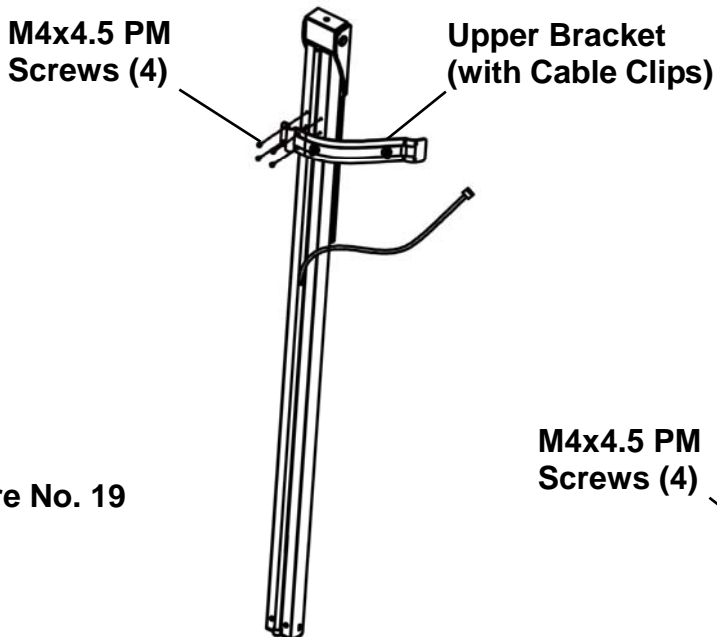

Figure No. 19
1. Referring to Figure No. 19, align the upper bracket with the holes in the height rod (near the headpiece) and install four (4) M4x4.5 PM screws to secure the bracket to the height rod.